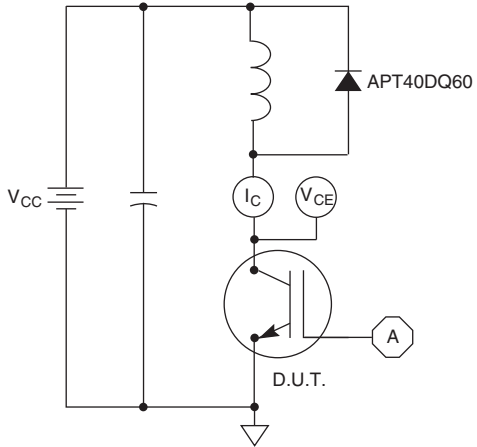

Figure 21, Inductive Switching Test Circuit
① Repetitive Rating: Pulse width limited by maximum junction temperature.
② For Combi devices,  $I_{ces}$  includes both IGBT and diode leakages
③ See MIL-STD-750 Method 3471.
④  $E_{on1}$  is the clamped inductive turn-on energy of the IGBT only, without the effect of a commutating diode reverse recovery current adding to the IGBT turn-on loss. Tested in inductive switching test circuit shown in figure 21, but with a Silicon Carbide diode.
⑤  $E_{on2}$  is the clamped inductive turn-on energy that includes a commutating diode reverse recovery current in the IGBT turn-on switching loss. (See Figures 21, 22.)
⑥  $E_{off}$  is the clamped inductive turn-off energy measured in accordance with JEDEC standard JESD24-1. (See Figures 21, 23.)
⑦  $R_G$  is external gate resistance, not including  $R_{Gint}$  nor gate driver impedance. (MIC4452)